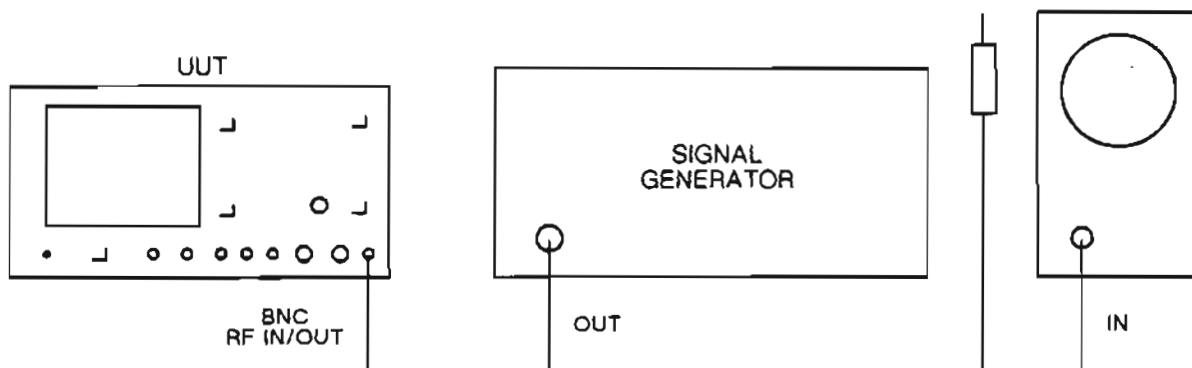

Fig. 2 Test equipment connections for adjusting R11 and R27 on AA1
- (1) Connect the equipment as shown in Fig. 2.
- (2) Set the u.u.t. to transmitter test, b.n.c. input socket.
- (3) Set the signal generator to a carrier frequency of 55.6 MHz, r.f. level 0 dBm, modulation off.
- (4) Connect the oscilloscope probe to the IF OUTPUT at PLC. Adjust R11 for minimum distortion (i.e. cleanest sinewave).
- (3) Set the signal generator to a carrier frequency of 300 MHz, r.f. level 13 dBm, modulation off.
- (4) Monitor TP1 on the oscilloscope and adjust R27 to reduce the height of the pulse spikes to a minimum. The spikes should be less than 150 mV in either the positive or negative direction.